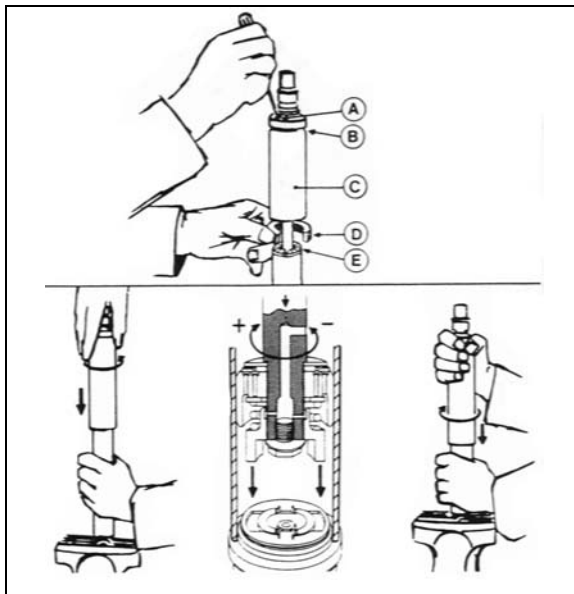

FIGURE 26: DAMPER
To adjust opening and closing cycle speed on damper (Figure 26):
2. Fully close the damper while turning the dust cap or piston rod slowly CCW until it is felt that the cams of the adjusting nut engage in the recesses of the foot valve assembly (Figure 26).
Where a bump rubber was installed, refit same inside the dust cap and by fully closing the damper, the rubber will seat again at top of the dust cap. Refit the split plastic collar E (Figure 26).